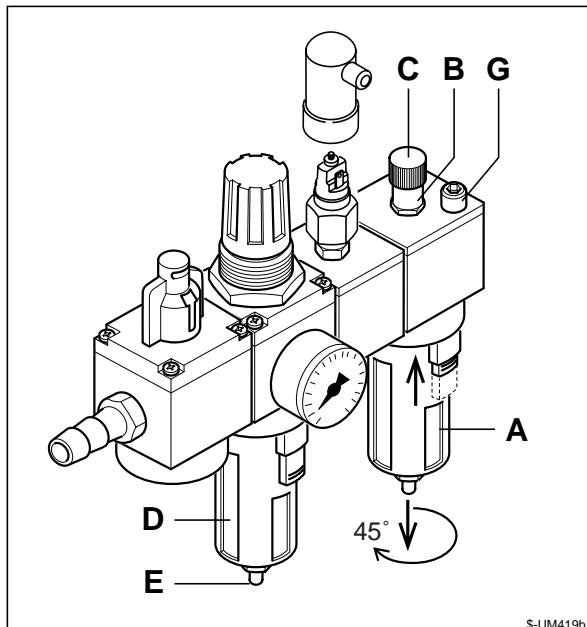

Fig. 5.5
- Check oil level in the bowl A (Fig.5.5) and top up, if necessary. The oil should always be over the half way mark. Use type C oil, as indicated in the table in Sec. 5.6.